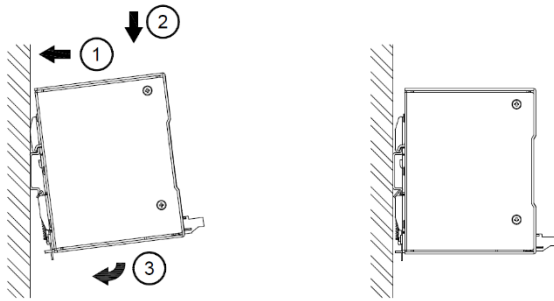

Fig. 2.1 Mounting
1. Tilt the unit upwards and insert it onto the DIN rail. Snap on the DIN rail as shown in Fig. 2.1.